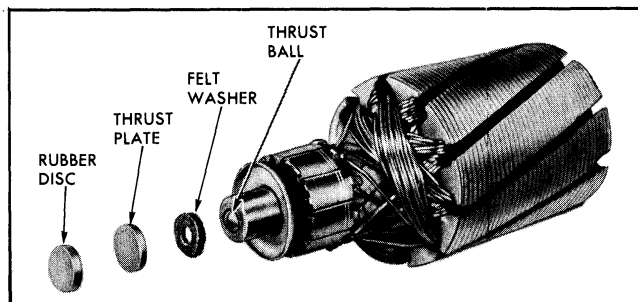

Fig. 11-102 Armature—Exploded View
5. Pull the armature out of the case and remove the brush springs, felt washer, thrust washer, thrust plate, and rubber thrust disc (Fig. 11-102) from the case assembly bearing as required.